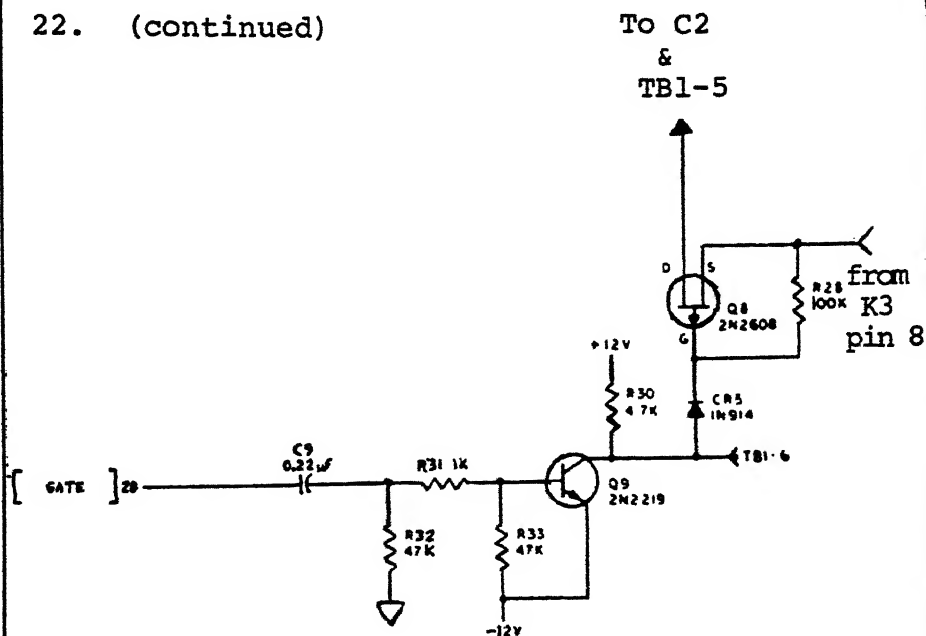

FIGURE 3
22. After the power is applied to the radar system, the bias for transistor Q9 is provided by the voltage divider consisting of R31, R32, and R33. Approximately -6vdc from the junction of R31 and R33, is applied to the base of Q9. Figure 3 shows that this base voltage and the -12vdc applied to the emitter will forward bias transistor Q9 into conduction.